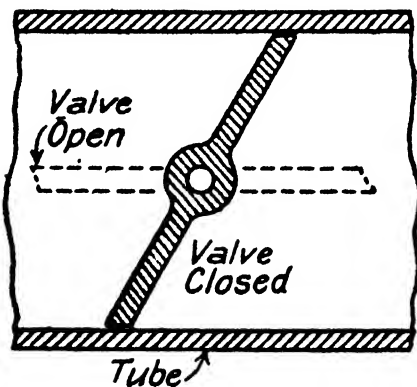

FIG. 120.
**The Butterfly Valve.**—In Fig. 120 a sectional view of the butterfly throttle valve is shown. This valve is very quick acting, only one-sixth of a turn being required to open full or close the orifice. It does not shut off tightly and is only suitable to low pressures. The idea is extensively adopted on damper valves in flue and stacks.